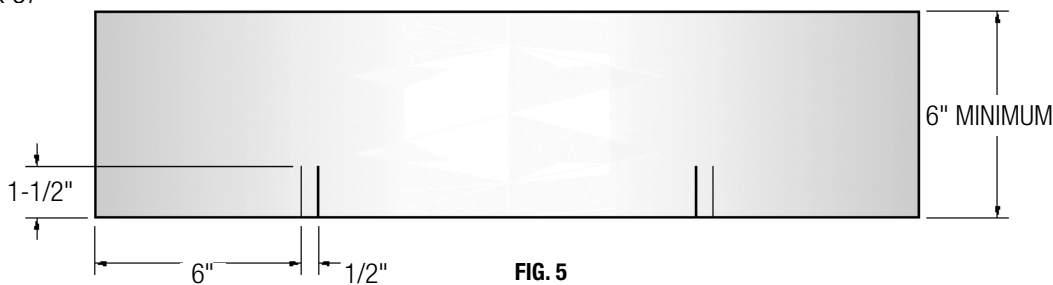

FIG. 5
- B) Measure the width of the rough opening. Cut a length of flashing that is 12" wider than the rough opening. This will allow you to run the flashing 6" up each side. (Fig. 5)
- C) Cut 1-1/2" slits at each end of the flashing. (Fig. 5)